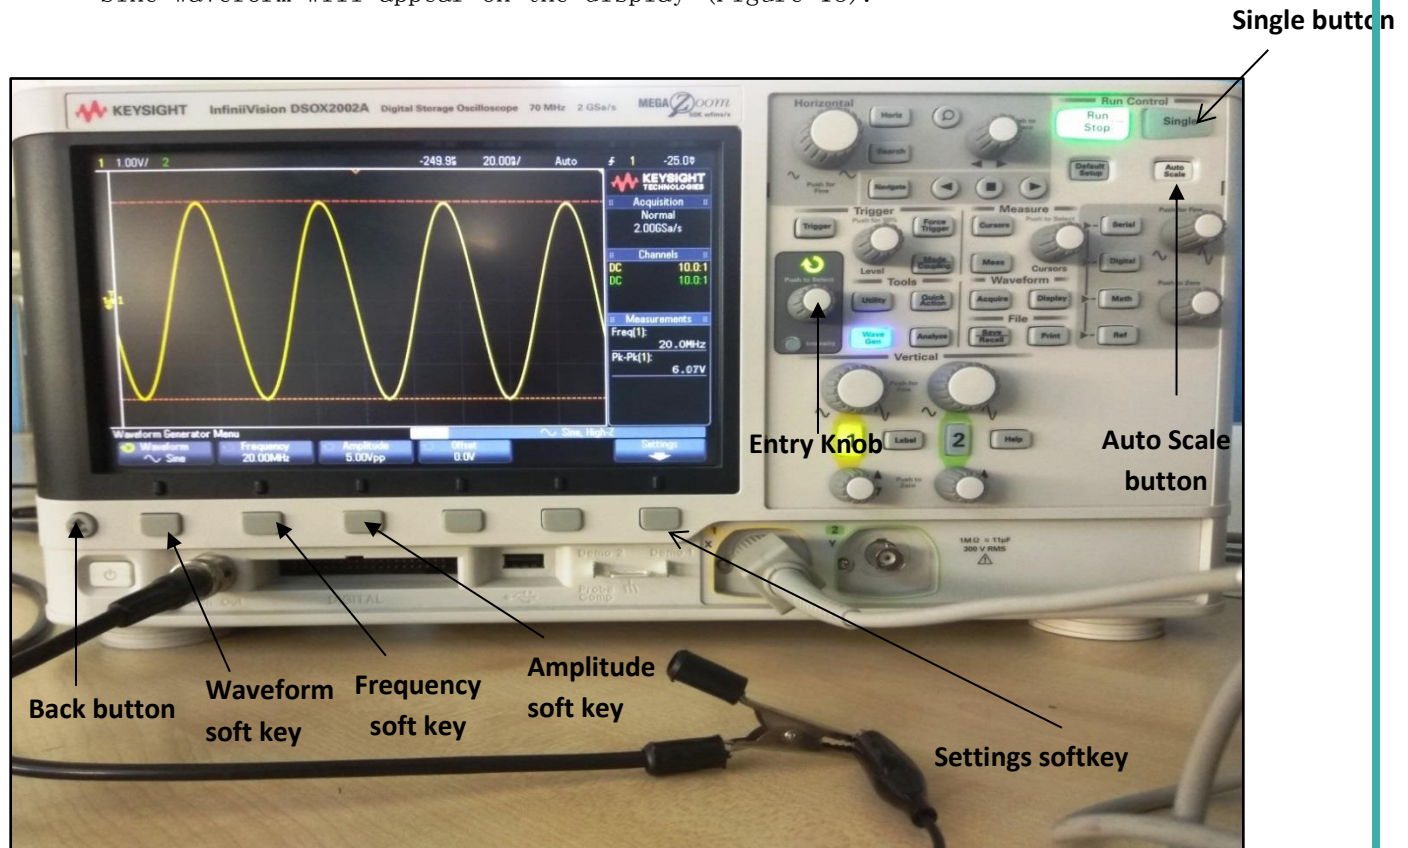

Figure 18: The wave generator menu and its respective front panel controls
- Press the “Settings” soft key as shown in figure 18.